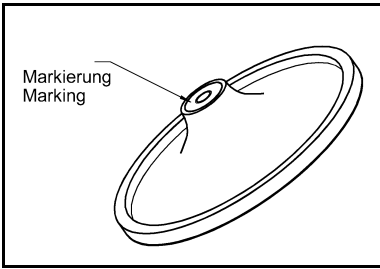

Fig. 24: Marking at diaphragm (7)
1. Use a small screwdriver to carefully lift up the outside edge of the diaphragm (7) from the adapter (9) and grasp the diaphragm.
2. Grasp the diaphragm (7) by the opposing side edges and unscrew it in the counter-clockwise direction.
3. Remove O-ring (8) from adapter (9).
5. Lay new O-ring (8) in the seat of adapter (9).
6. Screw the new diaphragm with marking (see Fig. 24) (7) into vacuum diaphragm (10) by hand and tighten hand-tight.